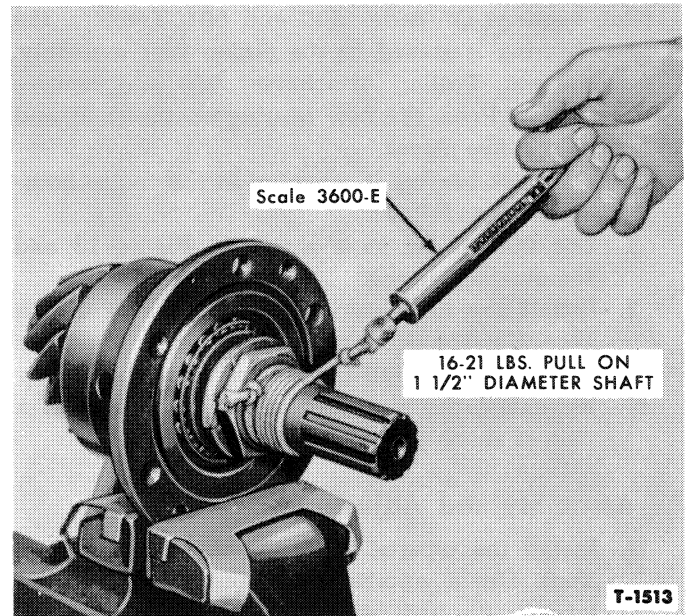

Figure 15—Checking Pinion Gear Bearing Preload
5. Turn the adjusting nut in a clockwise direction to increase the preload on the bearing. Correct bearing preload with new bearings is 16 to 21 lbs. pull when checked with a pull scale as shown in Figure 15. With used bearings the pull should be 8-10 lbs.